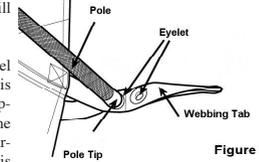

Figure 2
8. Now taking each complete steel pole in turn, insert the spike that is at the bottom end of the roof support pole into the eyelet in the webbing tab at the base of and nearest to the flysheet (the outer one is always for the peg) and repeat with the other end by grasping the webbing tab firmly and pushing the pole through the pole sleeve. Repeat with the remaining steel poles (see figure 2).
9. Next take the longest fibreglass pole; this will create the canopy over the main entrance. Insert one end tip into the eyelet in the webbing tab at the base of and nearest to the flysheet (the other is for the peg) and repeat with the other end, by grasping the webbing tab firmly and pushing the pole through the sleeve (see figure 2).